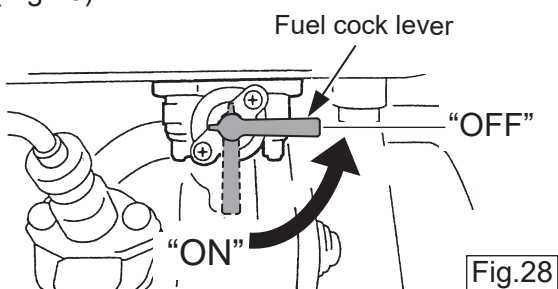

Fig.28
3. Move the fuel cock to the "OFF" position. (Fig.28)